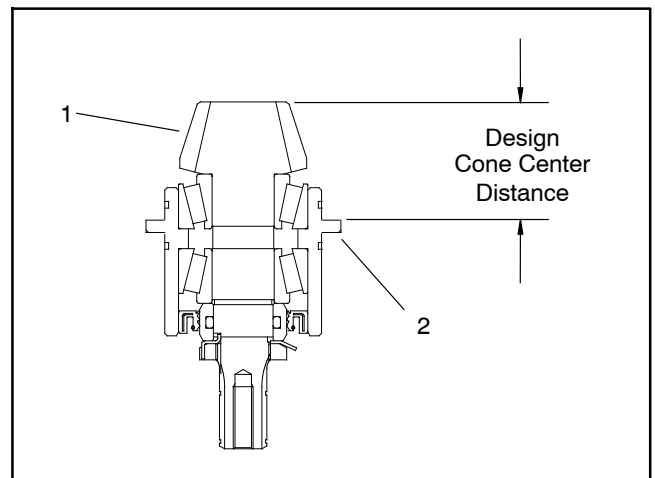

Figure 37
8. Use a depth gauge to measure the distance from the end face of the input shaft/pinion gear to the mating surface of the bearing case. Subtract the "Design Cone Center Distance" from this distance to determine initial shim thickness (Fig. 37).